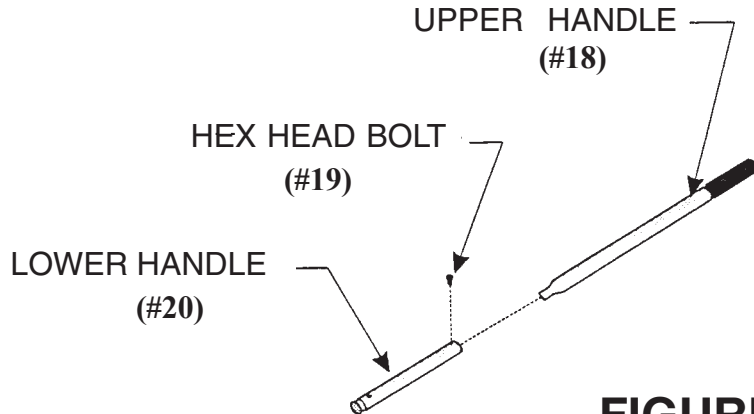

FIGURE 1
Step 3: Insert HEX HEAD BOLT (#19) and tighten with a 3/8" wrench as shown in Figure 1.